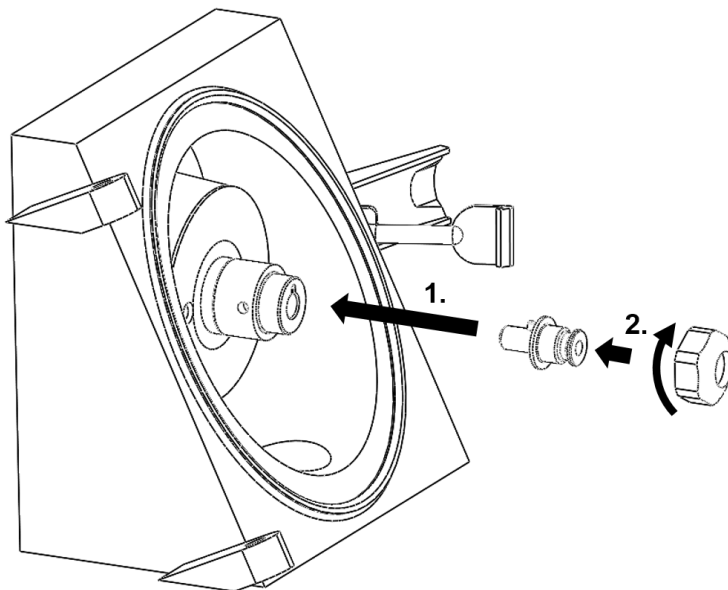

Figure 5: Installation of the source adaptor.
- Mount the source adaptor onto the inlet adaptor. Make sure to guide the pin into the notch (see Fig. 5).
- Complete by installing the nut over the source adaptor by screwing it clockwise onto the inlet adaptor thread (see Fig. 5) and tighten the inlet adaptor. Do NOT use tools e.g., pliers to tighten the nut and tighten it only hand tight!